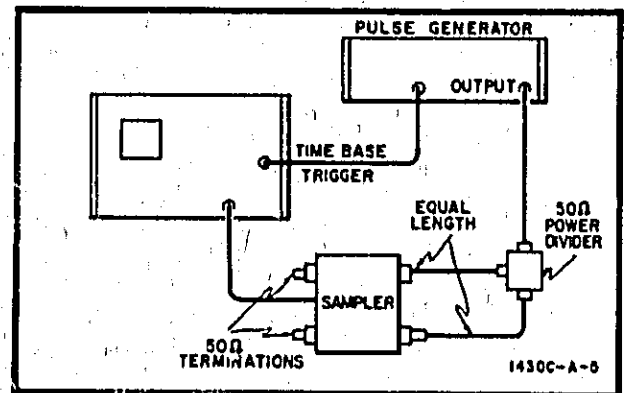

Figure 5-5. Time Difference Test Setup
- a. Connect equipment as shown on figure 5-5.